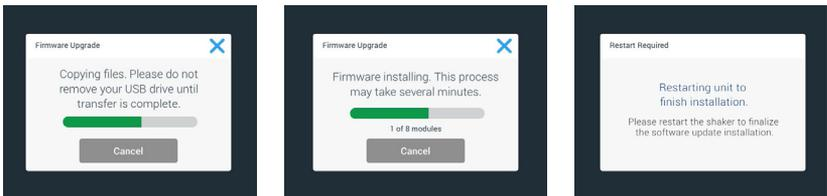

Figure 118: Firmware Upgrade Install Messages
15. Various messages appear to inform you about the progress of the installation, as shown in Figure 118.